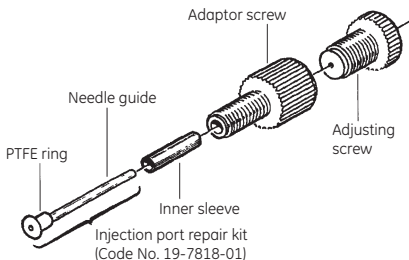

Fig 1. Disassembled injection fill port.
1. Check to see that the PTFE ring, needle guide, and inner sleeve are inside the adaptor screw (Fig 1).
4. Replace these two parts and reassemble the injection fill port according to the diagram in fig 1.